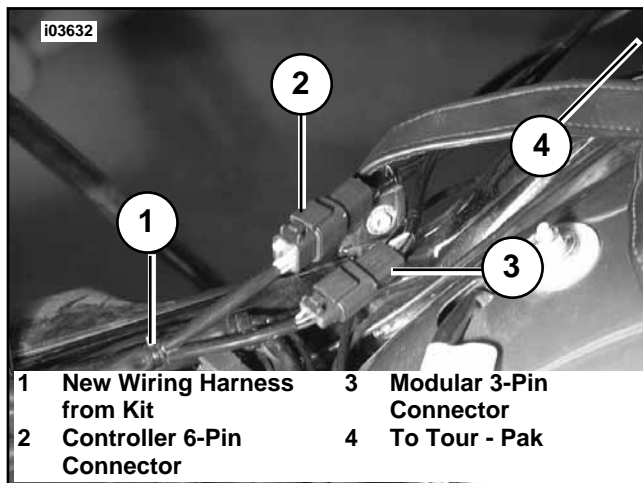

Figure 10. Connect New Wiring Harness (Under Seat) As observed from Left Side of Bike
35. See Service Parts Page Illustration. Obtain Wiring Harness (2) from kit. Locate the end with 3 Pin and 6 Pin Deutsch connectors installed. Locate the bikes main harness running along the upper right frame tube.
36. See Figure 10. At area under the seat, connect the controller 6 Pin and Modulator 3 Pin connectors to the new wiring harness supplied with kit (Connectors installed in Steps 31 and 32) for locating purposes. Lay the CD Changer (new) harness against the frame following upper right frame tube.